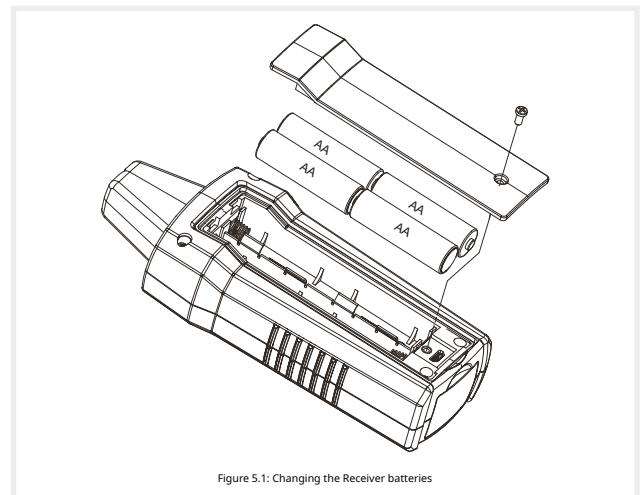

Figure 5.1: Changing the Receiver batteries
- Replace the batteries as shown in Figure 5.1.